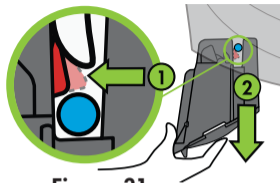

Figure 31
Use your finger to press down on the release tab to disengage UAS bin from Base Attachment Bar (1), then slide UAS Bin out (2), as shown in **Figure 31**.